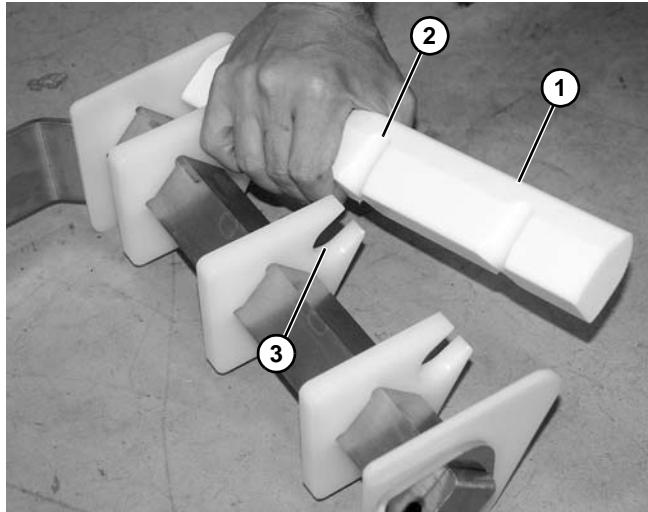

Figure 99
- Remove the return strip (Figure 99, item 1) by removing mating notches (Figure 99, item 2) in return strip from notches (Figure 99, item 3) in pucks.